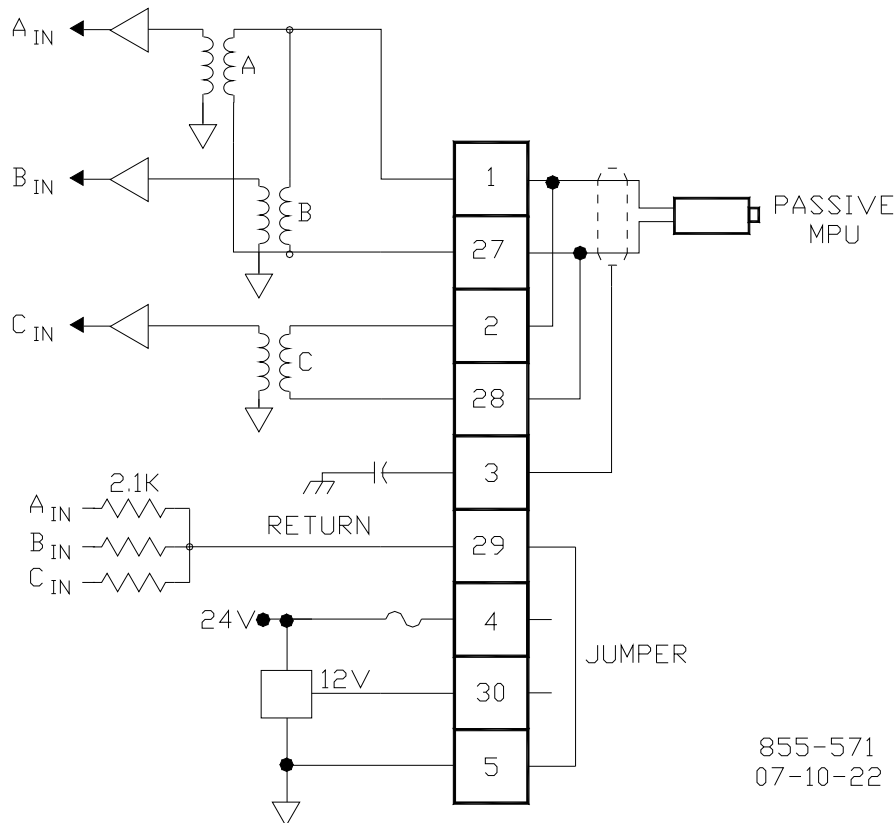

Figure 4-5. Example MPU Interface Wiring Diagram (Ch 1 shown)
Speed channel 4 has to be configured to receive a proximity probe. A proximity probe may be used to sense very low speeds. With a proximity probe, speed can be sensed down to 0.5 Hz. The 5009FT control can be programmed to turn on or off a turbine turning gear using a relay output programmed as a slow speed switch. See Figure 4-5 for proximity probe wiring schematic.
- Proximity Probes only—Jumpers must be installed from 'A&B IN' and to 'C IN' as shown in Figure 4-5 to avoid noise issues.